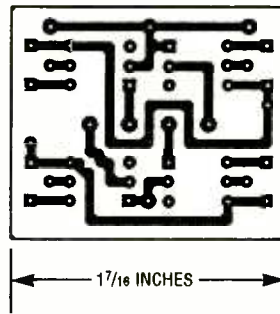

Fig. 5. You can use this foil pattern to build your own A/B switch, or order the board, kits, etc. from the listed supplier.
**Construction.** Now that we understand how the A/B switch works, it's time to build one. A printed-circuit board should be used. Not only will using a printed-circuit board save you time and lessen the chance of wiring errors, it will also eliminate the possibility of signals interfering with one another. If you want to make your own printed-circuit board, you can use the foil pattern shown in Fig. 5. Otherwise, printed-circuit boards, kits, and fully assembled units are available from the source mentioned in the Parts List.